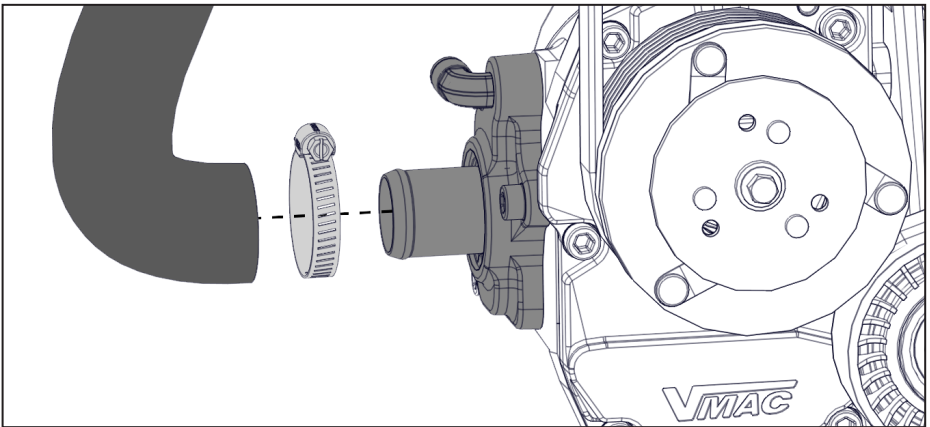

**Figure 31 — Tubing Installation Remote Blowdown Muffler assembly**
- Install the tube into the push-to-connect bulkhead fitting (Figure 31)